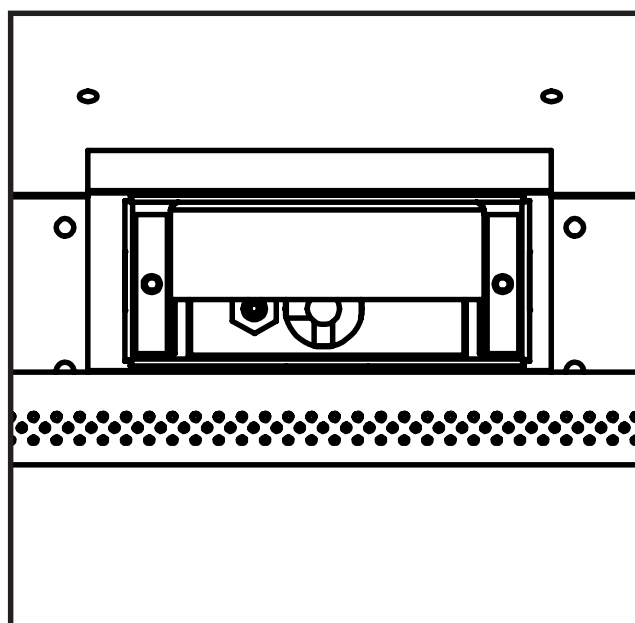

Figure 24. Ignitor assembly
10. Reinstall the burner, brick panels, log set, embers, and glass door. Also refer to SECONDARY INSTALLATION - INSTALLING LOG SET AND EMBERS in your Owner's Manual. When re-installing the burner, ensure that the burner to pilot hood relationship is similar to what is shown in Figure 24.